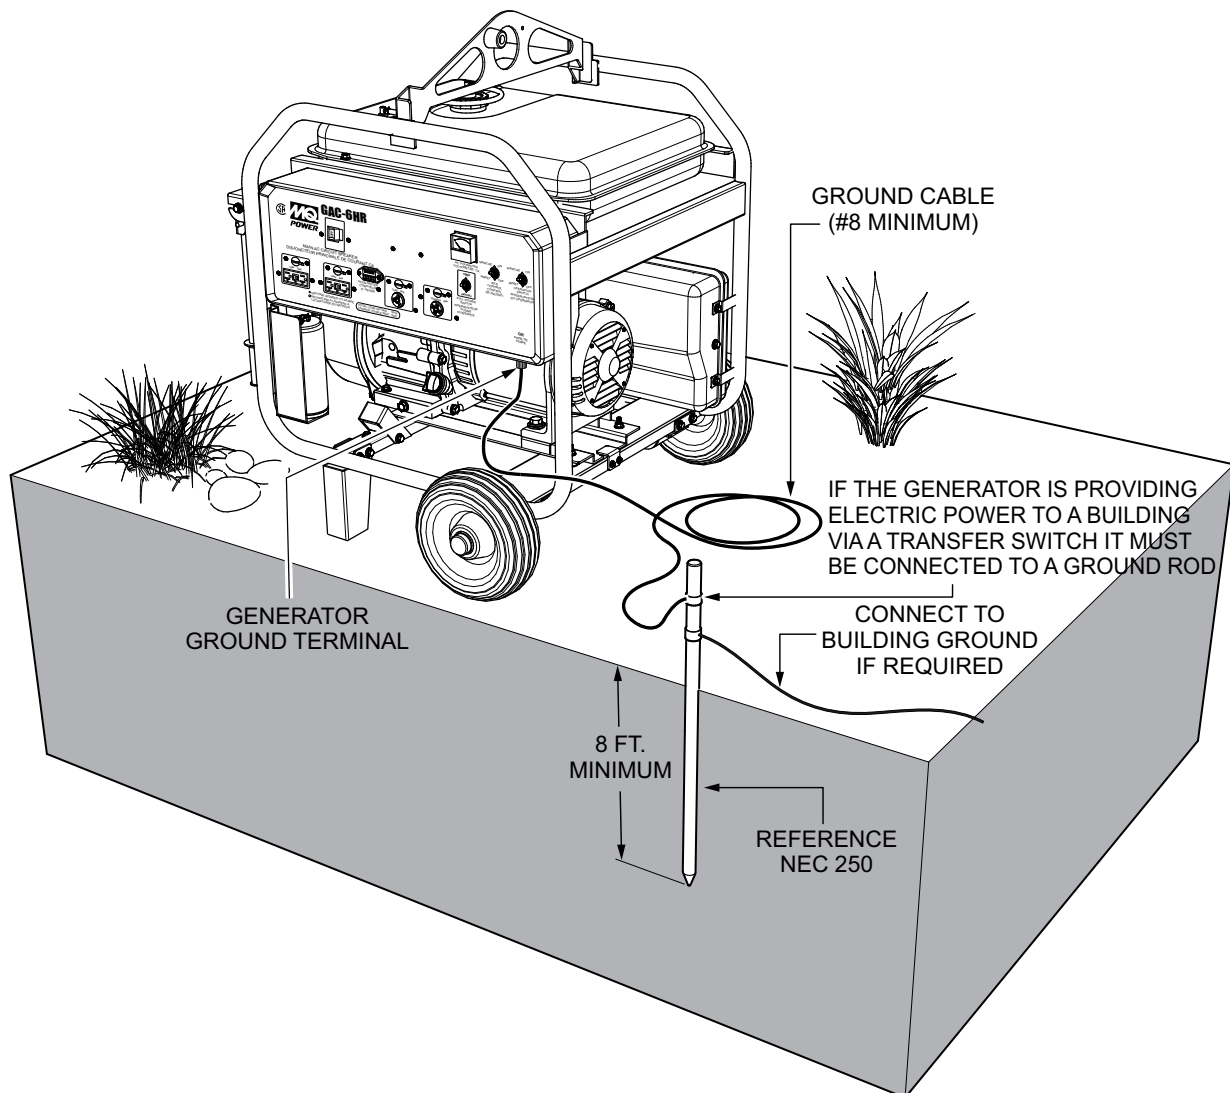

Figure 3. Generator Grounding
Connect one end of the ground cable terminal to the generator ground point (Figure 3). Connect the other end of the ground cable to a suitable earth ground (ground rod).
The Occupational Safety and Health Administration (OSHA) and the National Electrical Code (NEC) recommend that if the generator is providing electrical power to a structure home, office shop, trailer or similar) it **must** be connected to a grounding electrode system, such as a driven ground rod (Figure 3).
If applicable ,to guard against electrical shock and possible damage to the generator, it is important to provide a good **EARTH** ground (Figure 3).
2. When grounding of the generator (Figure 3) is required, connect one end of the ground cable to the ground lug on the generator. Connect the other end of the ground cable to the ground rod earth ground).